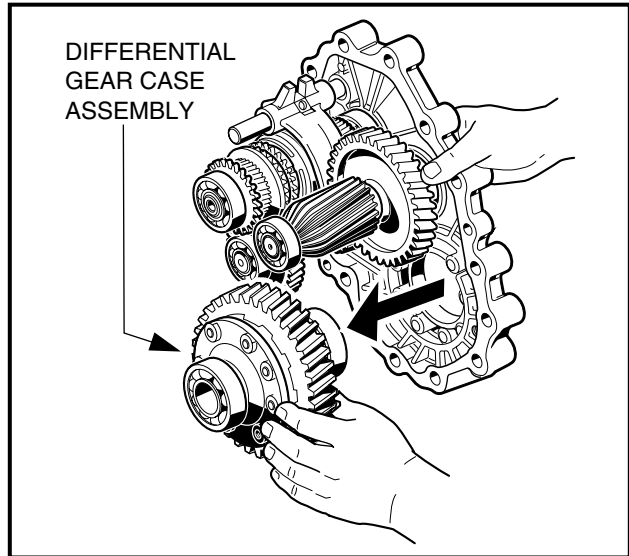

Figure 7-7 Remove Differential Gear Case
8. When all the gear assemblies are slightly loosened, remove the differential gear case assembly by gently rocking it while pulling it from the case (**Figure 7-7, Page 7-5**).